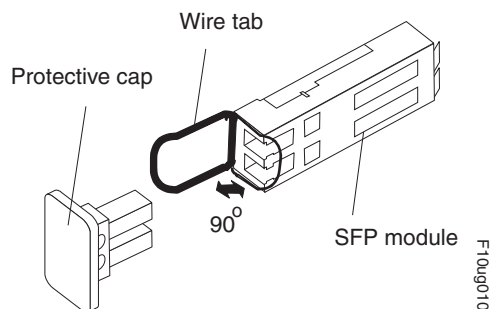

Figure 109. Unlocking the SFP module latch - wire variety
- For SFP modules that contain wire tabs, unlock the SFP module latch by pulling the wire latch outward 90°, as shown in Figure 109 on page 174.